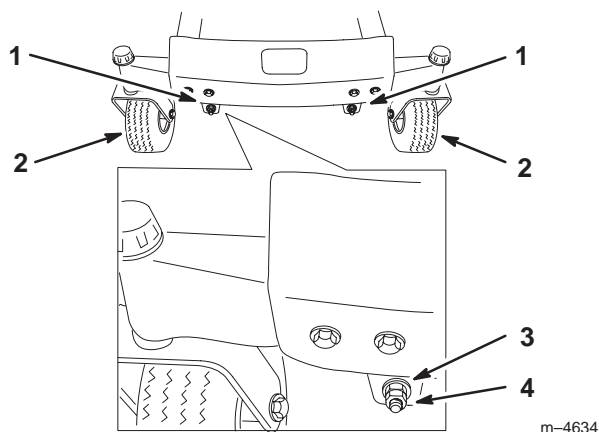

Figure 43
10. To adjust the front-to-rear blade slope, remove the locknuts and then rotate the adjustment nuts in the front of the mower (Fig. 43).
12. After adjusting both adjustment nuts evenly, check the front-to-rear slope again. Continue adjusting the nuts until the front blade tip is 1/16–5/16 inch (1.6–7.9 mm) lower than the rear blade tip (Fig. 43).
Note: After adjusting the adjustment nuts, make sure there is **no slack** in either support rod (Fig. 45). Tighten either one to remove the slack (Fig. 43).